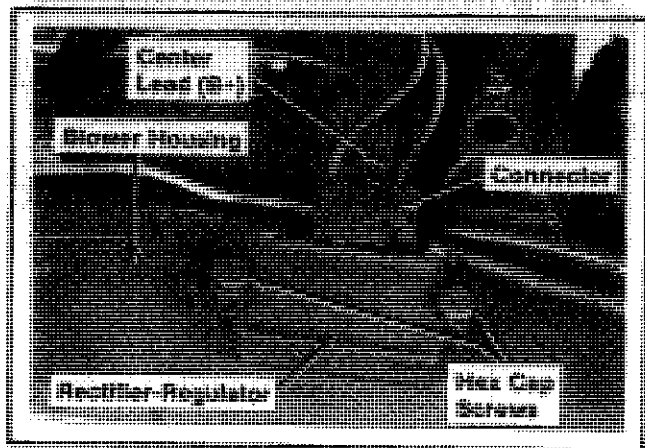

Figure 11-45. Install Rectifier-Regulator.
3. Install the rectifier-regulator and hex cap screws. Install the lead to center position of connector. Install the connector to rectifier-regulator. Refer to Figure 11-45.